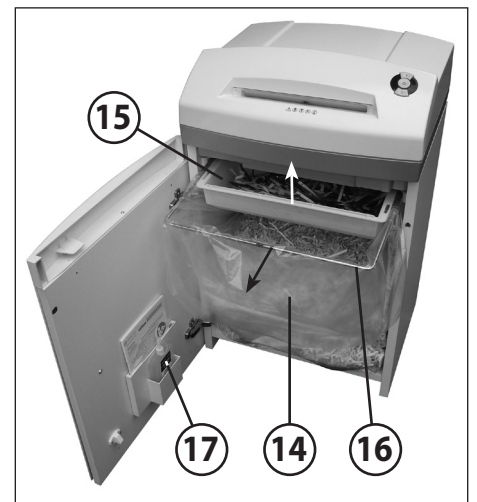

fig. 4
14 = Paper collection bag (Fig. 4)
15 = CD/DVD collection container (Fig. 4)
16 = Bag frame (Fig. 4)
17 = Oil reservoir (Fig. 4)
PAPER COLLECTION BAG (Fig. 4):
EMPTYING THE CD/DVD COLLECTION CONTAINER (Fig. 4):
Open the door. The control display (8) comes on and the reverse button (4) LED display (4) as well as the control display (7) **flashes**. Remove the oil reservoir (17) (Fig. 4) from the holder in the door and close the door again.